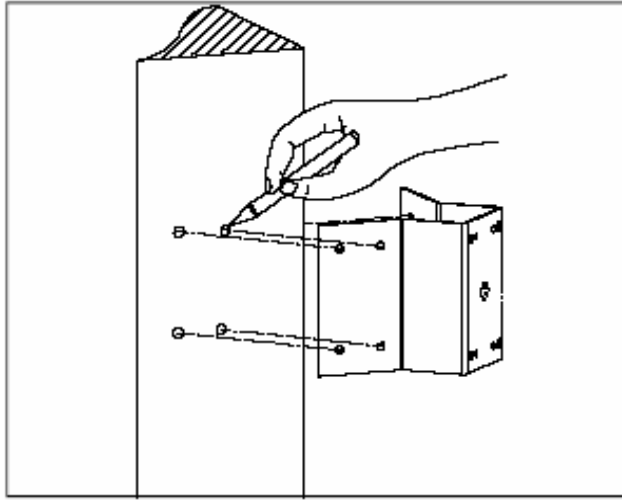

Fig 5
a. As shown in fig 5, with the installation holes in the corner mounted attachment as pattern, draw punched locations on the wall with an angle of 90° and punch to install expansion bolt.